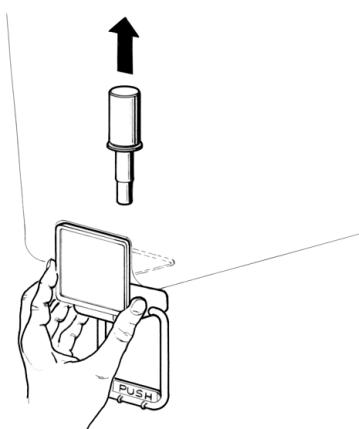

figure 4
- 6** **Gravity faucet:** extract the piston and then remove the dispensing handle (see figure 4).